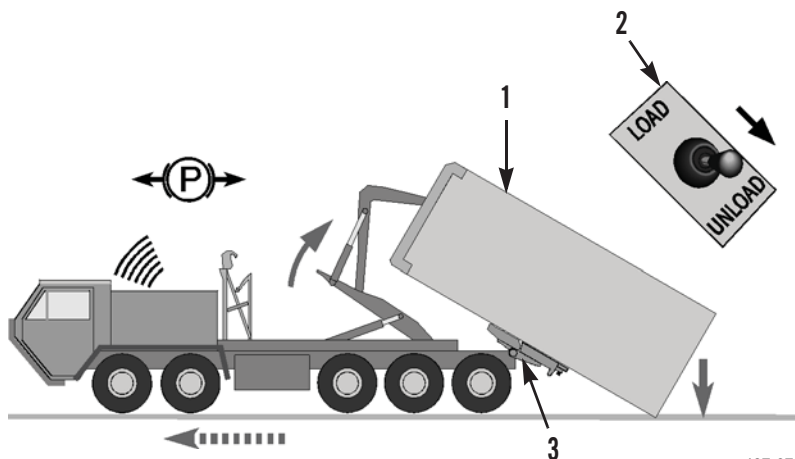

Figure 22. Release Parking Brake.
- As soon as container (Figure 22, Item 1) rises from rear sliders (Figure 22, Item 3), release parking brake (PLS: TM 9-2320-364-14&P, HEMTT: TM 9-2320-326-14&P).
- Keep joystick (Figure 22, Item 2) at UNLOAD and engine at same speed (PLS: TM 9-2320-364-14&P, HEMTT: TM 9-2320-326-14&P). Vehicle will move forward as container (Figure 22, Item 1) is lowered to ground.